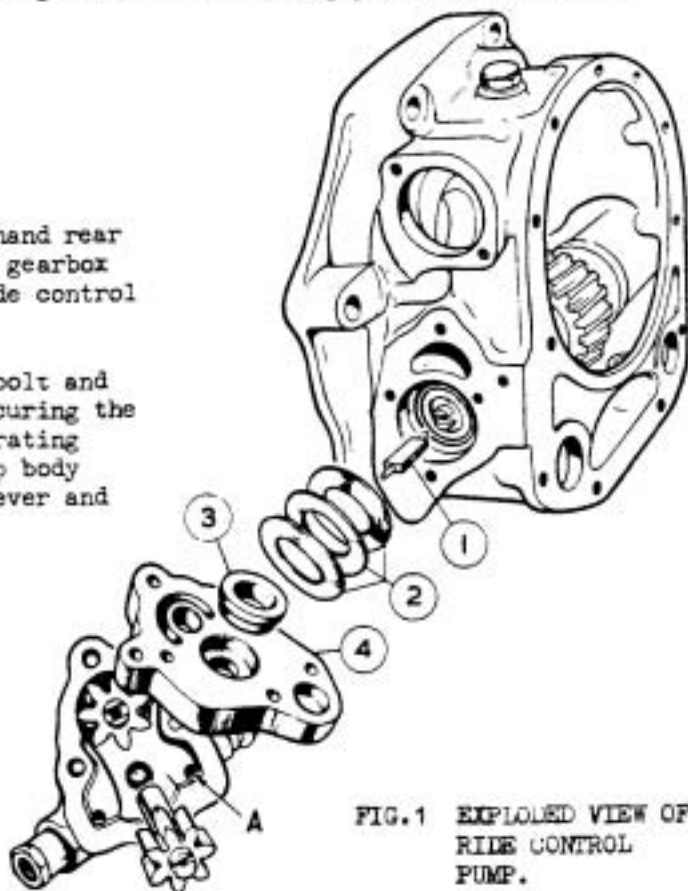
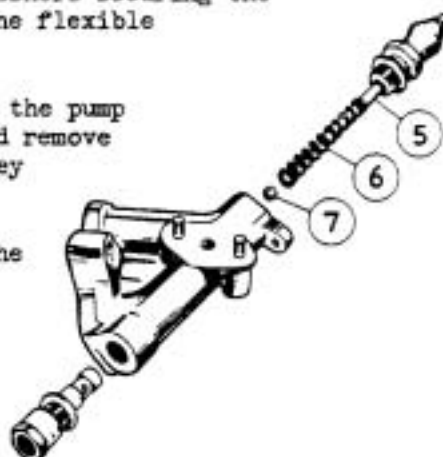

FIG.1 EXPLODED VIEW OF
FIG. 2 THE PUMP AND VALVE ASSEMBLY.
- (iv) Remove the four screws retaining the pump to the gearbox rear extension and remove the pump. Collect the driving key (1 Fig.1).
- (v) Remove the two screws securing the intermediate plate (4). The plate will spring outwards as the screws are loosened under the influence of the three Belleville washer (2) which apply the pre-load to the taper bearing. Remove the plate and collect the Belleville washers and distance piece (3).
- (vi) Undo the hexagon nut and remove the ride control valve rod (5 Fig.2), spring (6) and steel ball (7).